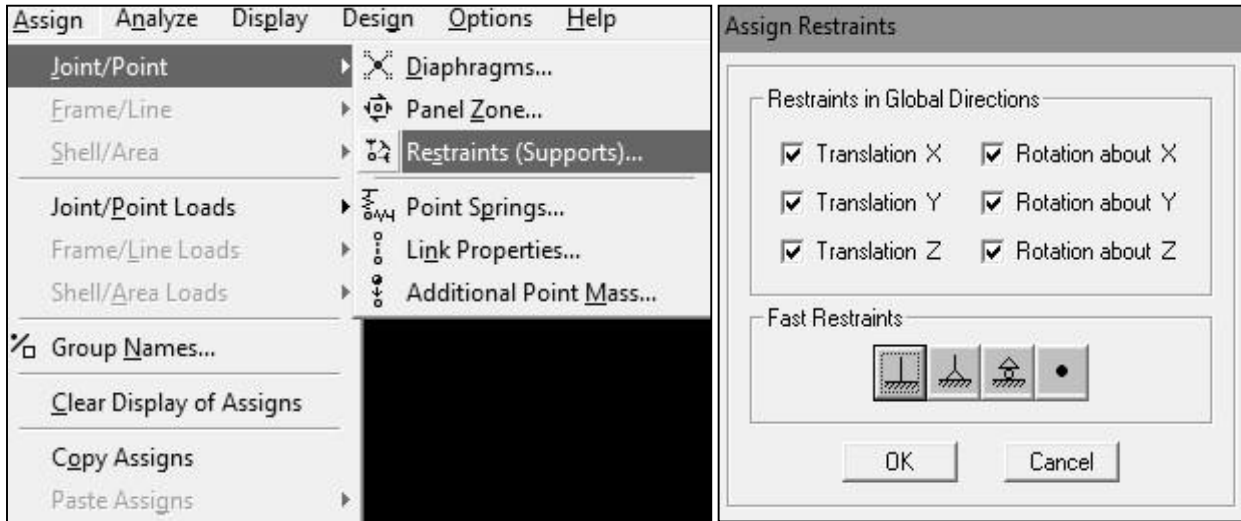

Fig : 2.6
4.1. **Support Assign:** Select the support point → Assign → Joint/Point → Restraints (Supports) → then select support type (Fixed, Pin, Roller) by clicking on symbols → OK. (Fig: 2.6)